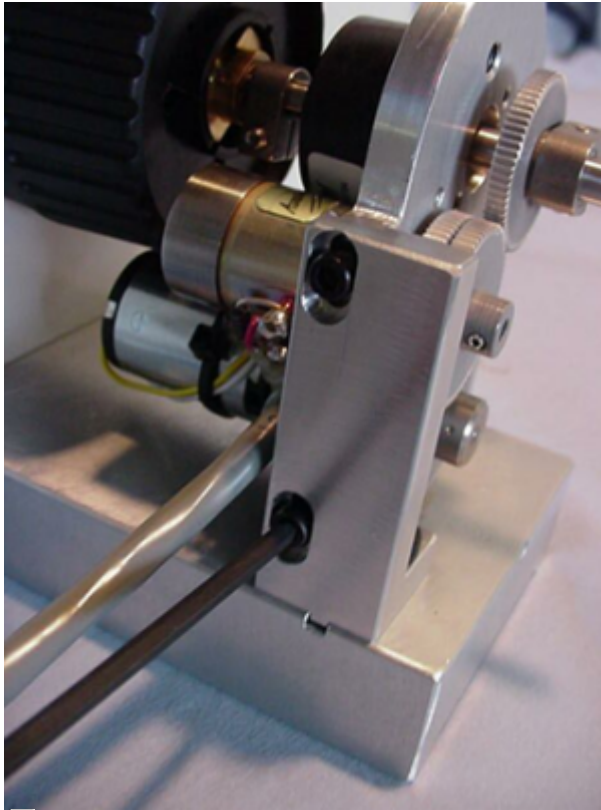
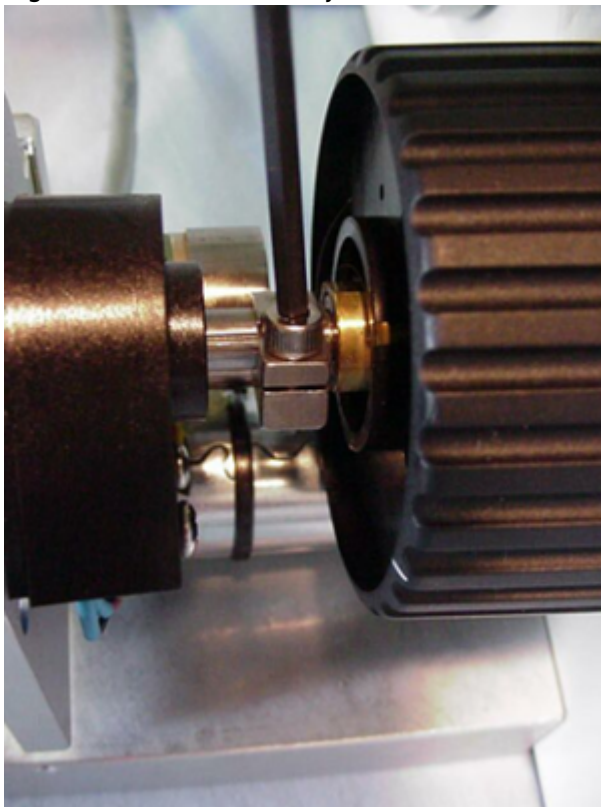

Figure 6. The vertical adjustment screws
Figure 7. The drive shaft clamp
c) Locate the adjustment bar, and the motor drive. Use the 7/64" Allen wrench to loosen the vertical adjustment screws as shown in figure 6. Use the 7/64 Allen wrench to loosen the clamp that is located on the ASI drive shaft as shown in Figure 7. This clamp is located at the end of the drive shaft as it protrudes out of the black encoder cover. Once the clamp is loose slide it back towards the encoder. While holding the right fine focus knob with one hand align the ASI drive shaft with the microscope's fine focus shaft and slide the ASI drive shaft over the microscope's fine focus shaft. If you do not hold
e) Slide the ASI drive shaft clamp towards the microscope body as shown in figure 7, and use the 7/64 inch hex wrench to tighten the drive shaft clamp. Insure that this clamp is securely tightened or slippage may occur. Use the 5/64" Allen wrench to tighten the base plate clamp that is located on the right side of the microscope as shown in figure 5. Tightening this setscrew will cause the silver bar to press against the side of the microscope. Insure that the setscrew is securely tightened to hold the baseplate assembly in place.